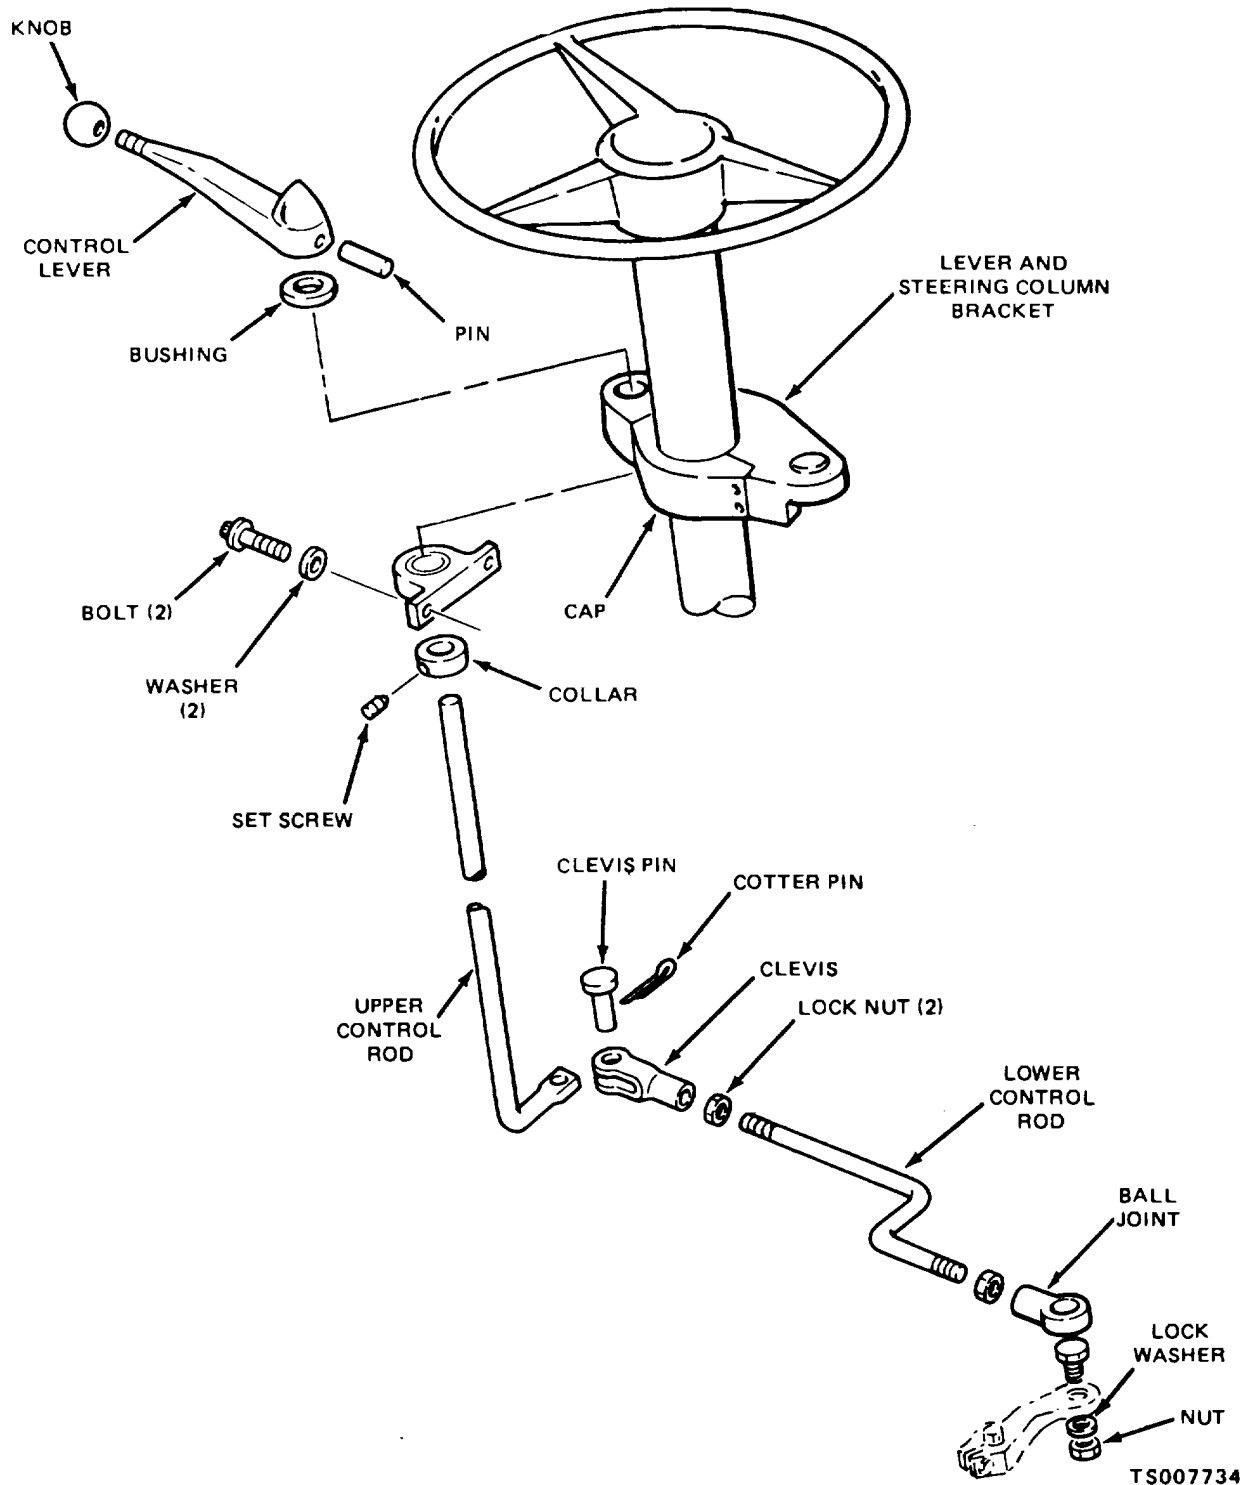

Figure 4-61. Directional Shift Lever and Linkage
a. Adjust the directional control lever and linkage as shown in figure 4-61.